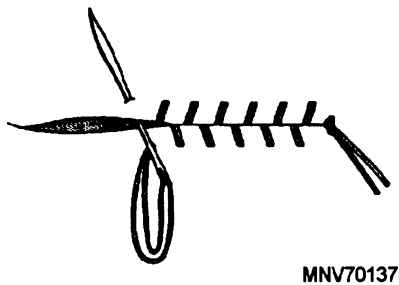

Figure 5-13.—Baseball stitch.
- Baseball stitch. The baseball stitch is used to mend tears in light and medium canvas. Figure 5-13 shows how it is done. Keep enough tension on the thread to remove all loops and slack